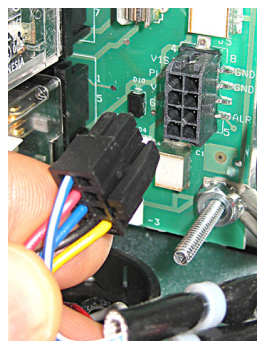

Figure 4
7. Disconnect the module harness from the interface board (see Figure 4).